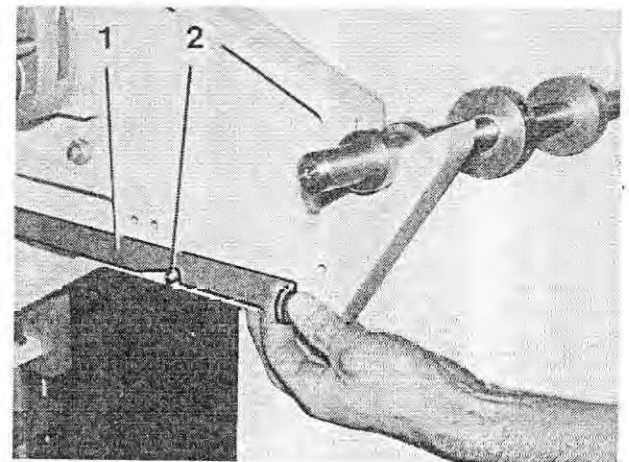

Fig. 91
4. Pull out the bars of lifting the pendulum (Figure 91/1) and fix it on the retaining pin (Figure 91/2).